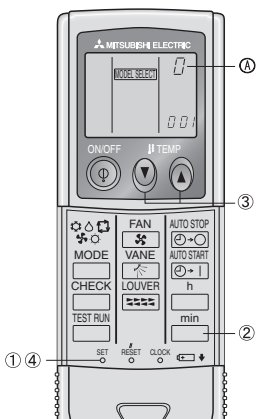

Fig. 6-5
3) Assigning a IR wireless remote controller to each unit (Fig. 6-5)
4) IR wireless remote controller pair number setting operation (Fig. 6-5)
① Press the SET button with something sharp at the end.